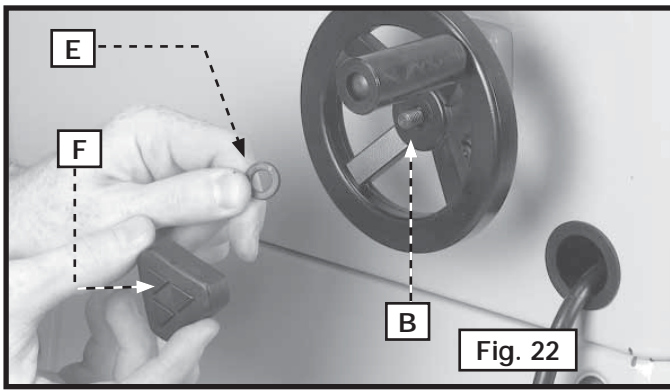

Fig. 22
2. Place a 10mm Nylon Flat Washer (E) on the shaft (B). Thread the locking knob (F) on the shaft.
3. Attach the elevation handwheel (G) Fig. 22 to the front of the saw in the same manner.